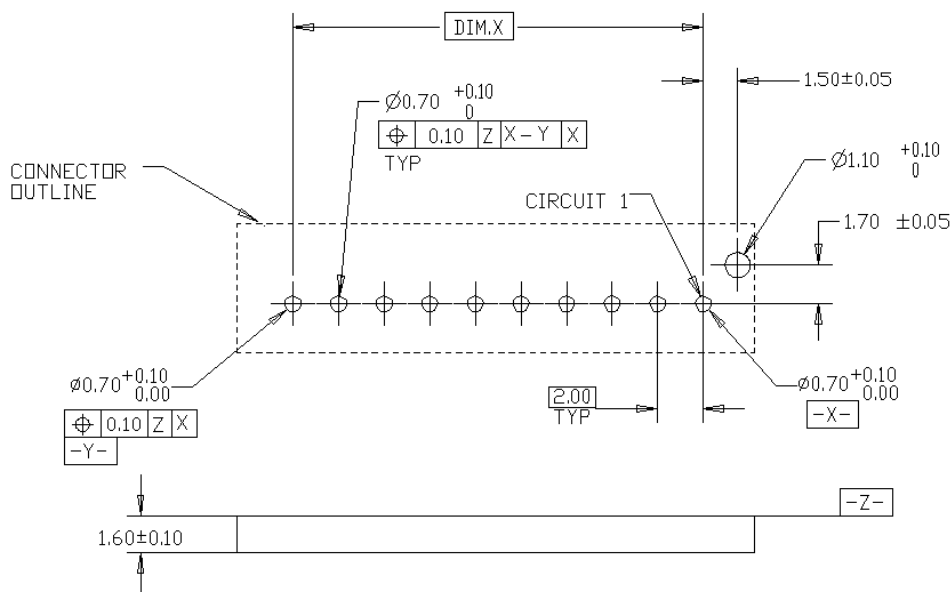

Figure 4
See Figure 4 for recommended extraction tools for receptacle contact.
- a. The mounting and contact holes in the PC board must be precisely located to ensure proper placement and optimum performance of the header assembly. Design the PC board using the dimensions provided in Figure 4. The layout shows the top (component) side of the board.